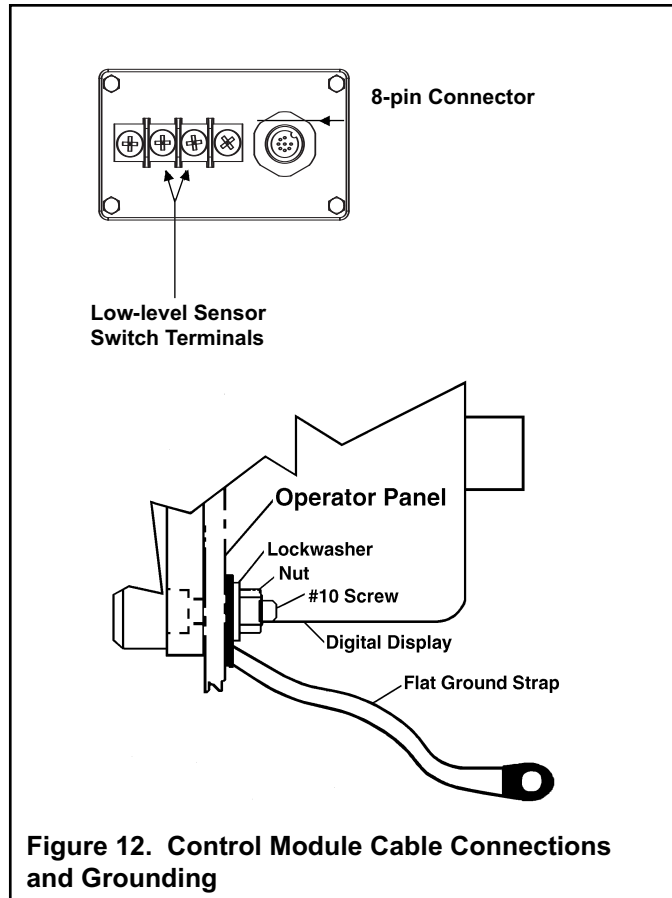
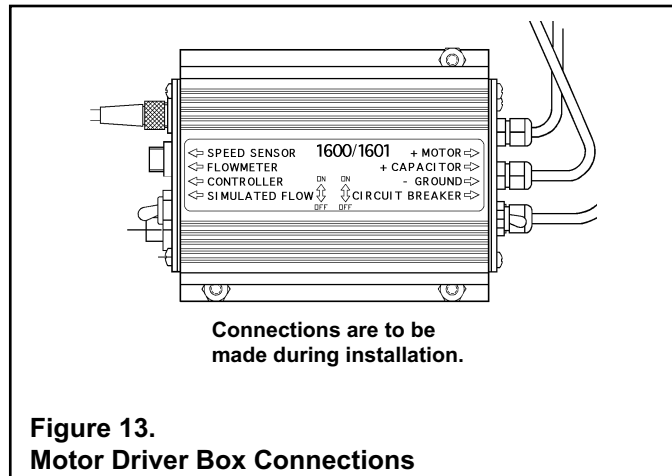

Figure 12. Control Module Cable Connections and Grounding
Figure 13. Motor Driver Box Connections
The control module is designed to be mounted in the operator panel of the apparatus. The cutout needed in the operator panel is found on Page 26 of this manual. The module is secured with four #10 socket head screws in the four holes in the face (See Page 26 for a mounting template). The display requires 5 inches [127 mm] minimum from the back of the operator panel to clear wires and connectors. Make sure there is enough clearance behind the operator's panel for the cables. Once the control module is mounted, connect the 5 pin control y-cable (red coded cable end) from the motor driver box terminal to the 8 pin connector on the back of the control module (see Figure 12). Connect the 4 pin connector on the y-cable to the rear enable switch. Connect the 8 pin extension cable from the rear enable switch to the front enable switch. A color coded decal on the motor driver box identifies cable connections (see Figure 13).
**NOTE: Make sure the panel where the control module is mounted has an adequate ground. For stainless steel and vinyl-coated panels, a flat ground strap must be attached from one of the four screws holding the control module in place, to the frame of the fire truck to ensure adequate grounding (see Figure 12).**